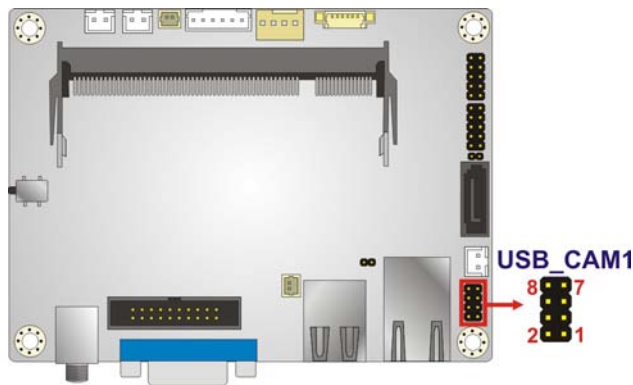

Figure 4-19: USB Connector Location
- CN Location: See **Figure 4-19**